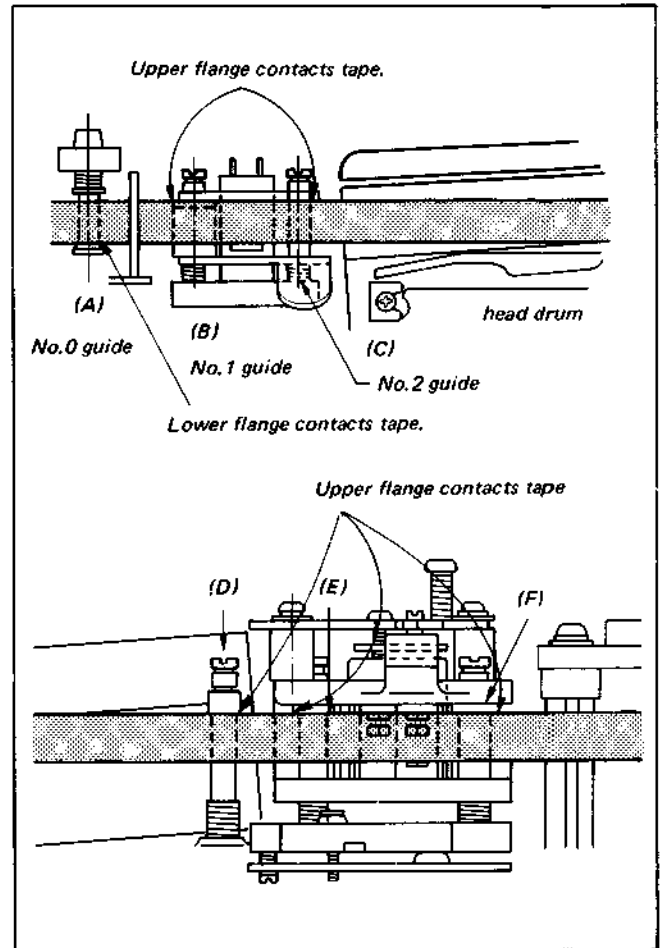
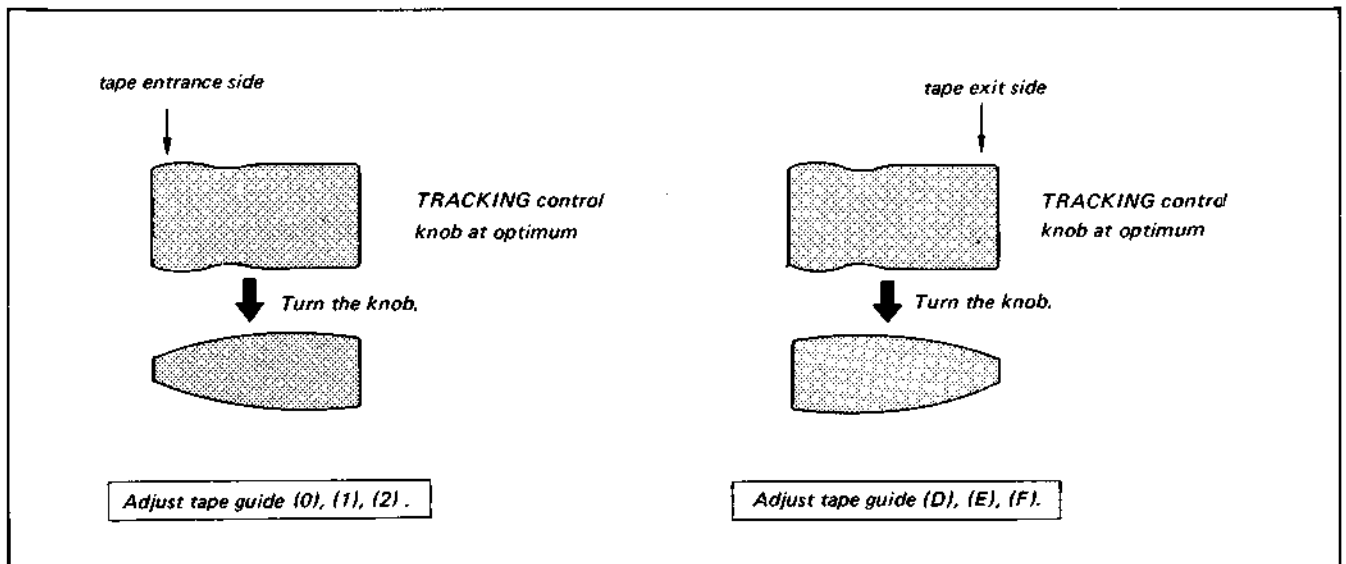

Fig. 3-47. Adjustment of tape path
Fig. 3-46. Adjustment of tape path
- When the waveform at the tape entrance side is not flat as shown in Fig. 3-46 for the clockwise and counterclockwise turning of the TRACKING control knob from center, detent position, adjust the heights of tape guides (0), (1), and (2). When the waveform at the tape exit side is not flat, adjust the heights of tape guides (D), (E), and (F). The height adjustment must be performed so that the tape contacts the drum heads, and there is a minimum curl (not more than 2 mm) at the flange of each tape guide, the upper or lower flanges contact the tape as shown in Fig. 3-47, and the RF waveform is flat.
- Raise the tape guide (D) shown in Fig. 3-47 by 0.5 mm. (Turn the nut one turn.)